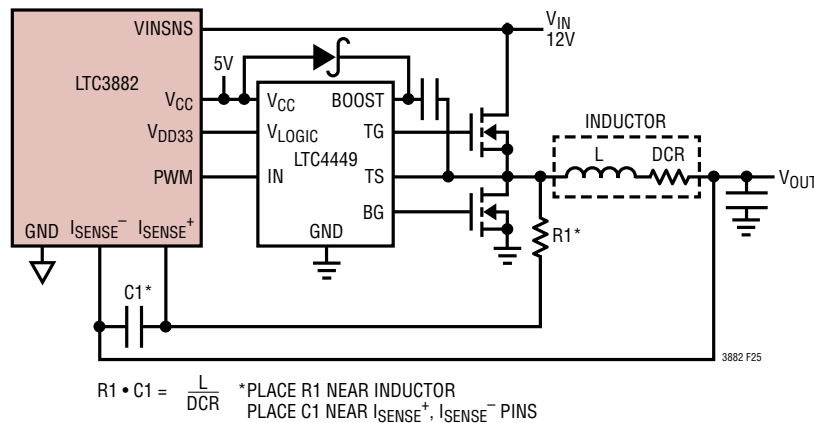

Figure 25. Inductor DCR Output Current Sense
The transfer function of the Type 3 circuit shown in Figure 25 is given by the following equation:
5. Place the output current sense resistor (if used) immediately adjacent to the inductor output. PCB traces for remote voltage and current sense should be run together back to the LTC3882 in pairs with the smallest spacing possible on any given layer on which they are routed. Avoid high frequency switching signals and ideally shield with ground planes. Locate any filter component on these traces next to the LTC3882, and not at the Kelvin sense location. However, if DCR sensing is used, place the top resistor (R1, Figure 25) close to the switch node.
To maximize efficiency at full load the LTC3882 is designed to sense current through the inductor's DCR, as shown in Figure 25. The DCR of the inductor represents the small amount of DC winding resistance of the copper, which for most inductors suitable to LTC3882 applications, is between $0.3m\Omega$ and $1m\Omega$. If the filter RC time constant is